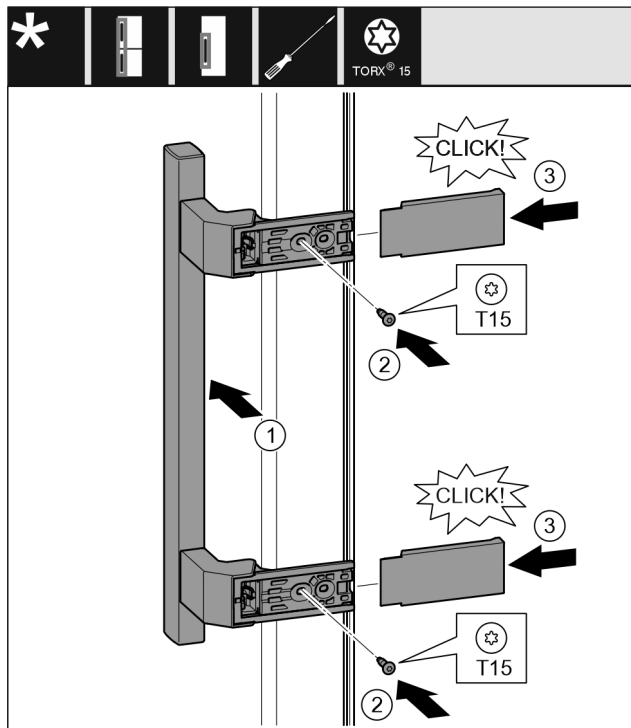

Fig. 12
- Attach the handle on the opposite side. Fig. 12 (1)
- Tighten screws with screwdriver T15. Fig. 12 (2)
- Place the covers on the side and push them on. Fig. 12 (3)